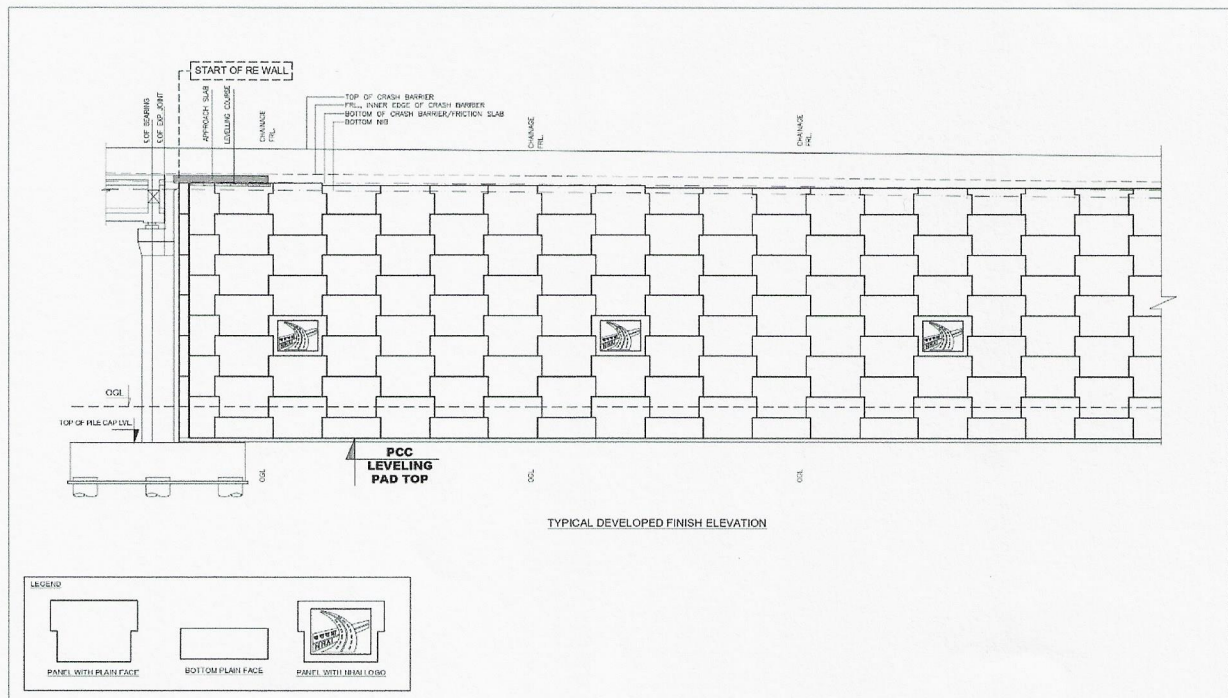

Figure-2
6. (i) **Horizontal and Vertical Distance for Installation of RE Panel with NHAI logo** - NHAI logo must be uniformly visible for road users and pedestrians. RE Panel with NHAI Logo will be installed in one row only horizontally at every 6th panel of RE Wall and vertically above 02 nos. of RE Panel from Finishing Road Level (FRL) as shown in Figure-2.